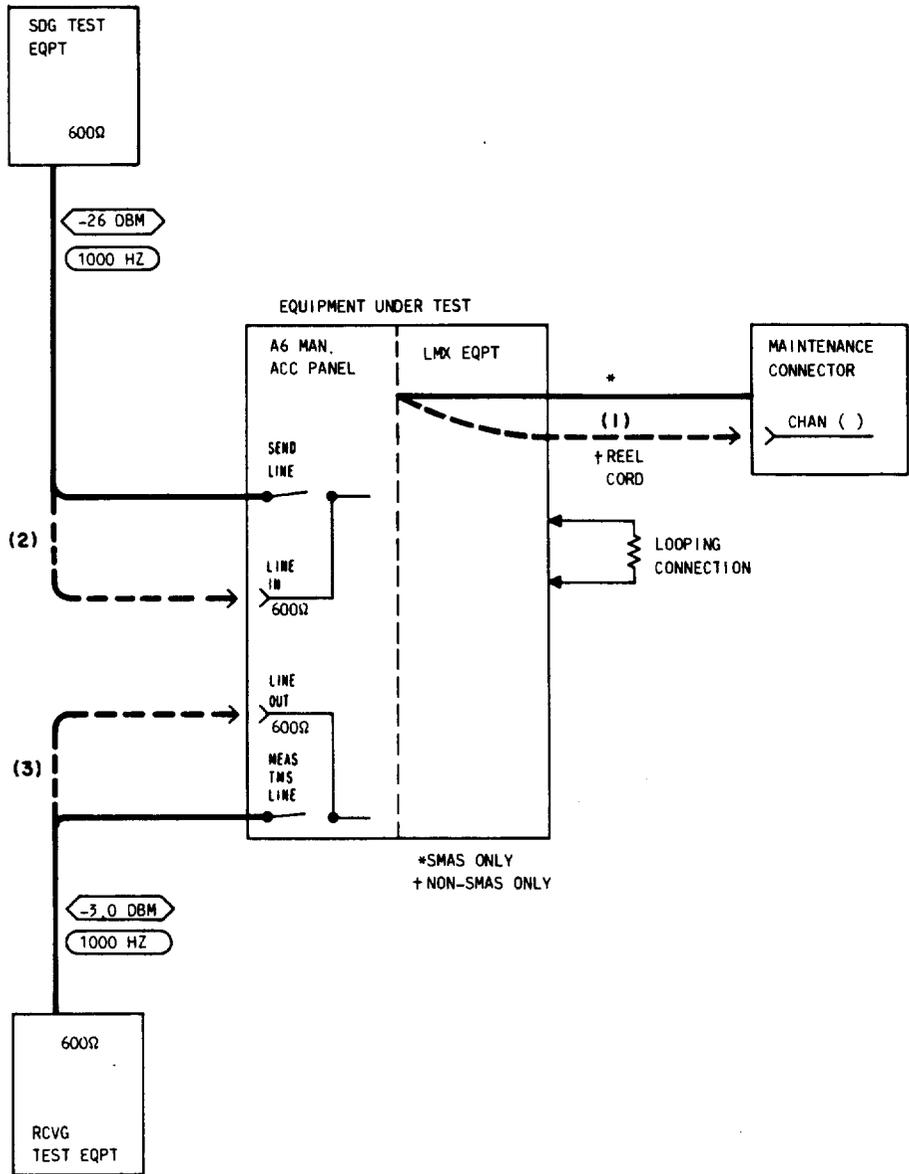

Fig. 9—Patching Diagram—Preparation—Equal-Level Looping
- 6b† Connect the retractable cord (on the 22AU MAP) to the CHAN BANK connector (on the maintenance connector) for Channel 1 [patch (1), Fig. 9].
Note: If the MDS is not available via the SEND LINE switch, connect the STE to the LINE IN jack [patch (2), Fig. 9].
Note: If the T&NMS is not available via the MEAS TMS LINE switch, connect the RTE to the LINE OUT jack [patch (3), Fig. 9].
12	Restore the SEND LINE/DROP switch to the neutral position [or remove patch (2), Fig. 9, if used with the 22AR or AT MAP].
13*	If used, remove patch (3), Fig. 9.
14†	Remove the retractable cord (on the 22AU MAP) from the channel under test [patch (1), Fig. 9].